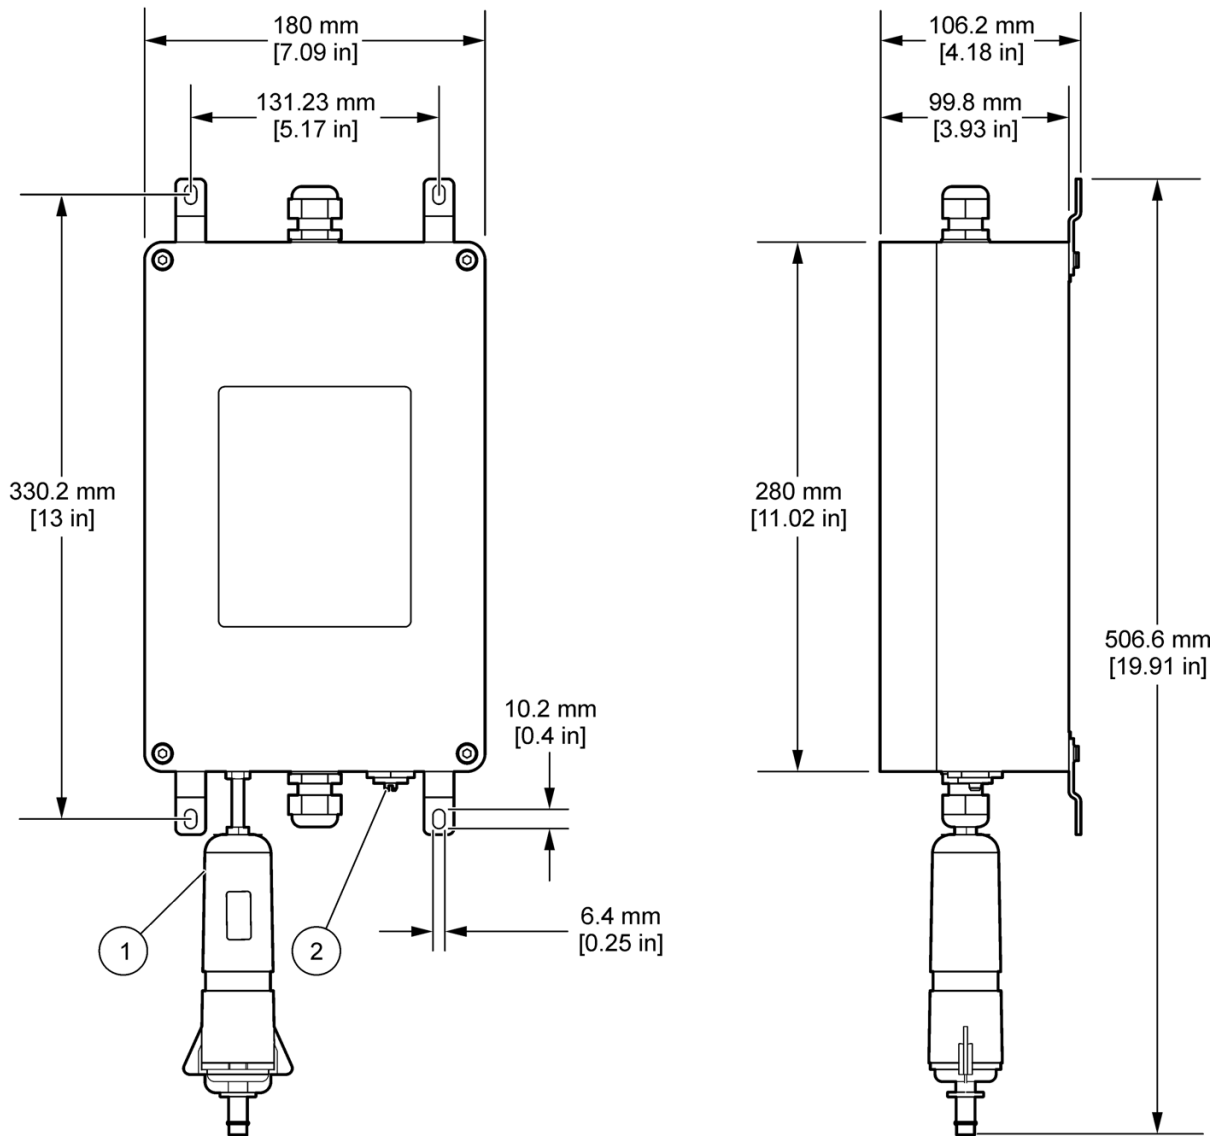

Figure 2 Barrier dimensions
1. Install the barrier on a wall in a non-hazardous environment (Figure 2 on page 12).
11. Connect a protective earth ground (PEG) to the ground stud on the barrier (Figure 2 on page 12) where local code or authorities permit or require such a connection. If required, use a copper wire that is AWG 9 or larger.